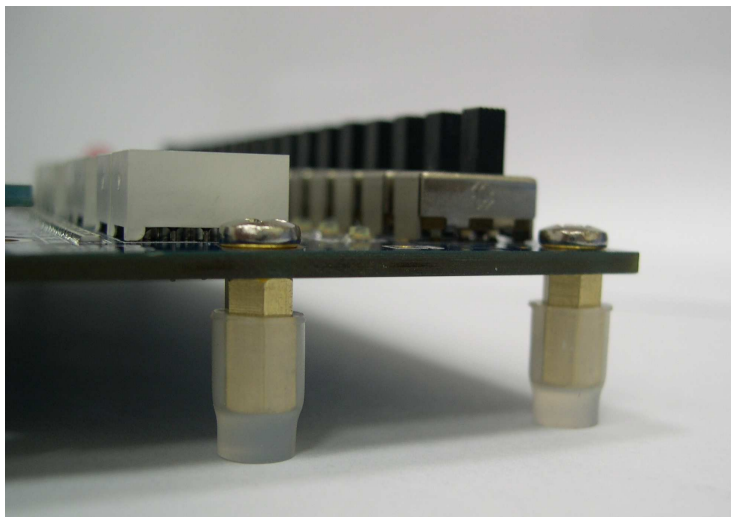

Figure 1.2. The feet for the DE0 board.
- Assemble a rubber (silicon) cover, as shown in Figure 1.2, for each of the four copper stands on the DE0 board